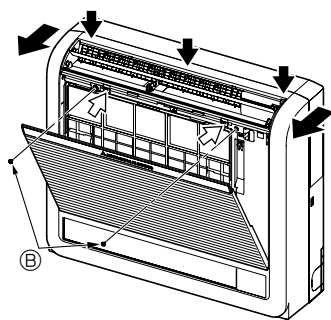

Fig. 3-3
- ① Press the 2 positions indicated by the arrows and open the front grille. (Fig. 3-3)
- ② Open the front grille and remove the 2 screws.
- ③ Open the horizontal vane for the upper air outlet, push the top of the front panel in 3 locations, and then pull the top of the grille away from the indoor unit.